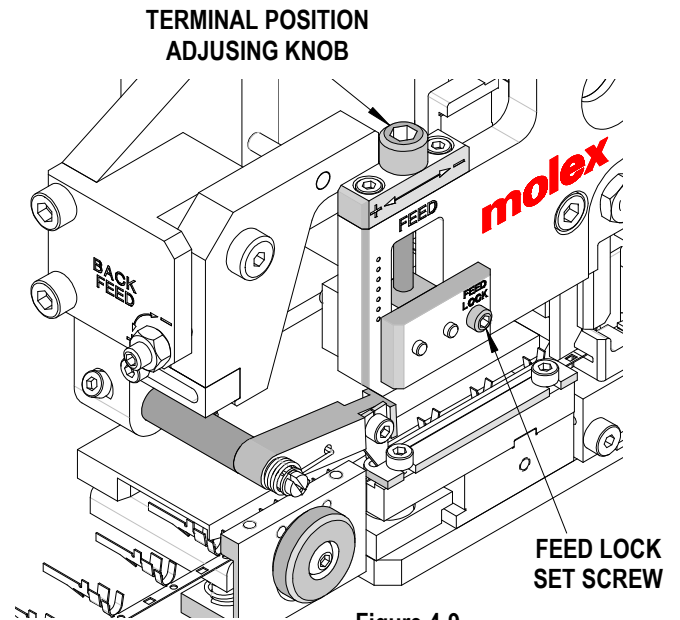

Figure 4-9
5. Turn the terminal position adjusting knob to center the terminal over the anvils. To move the terminal to the right, turn the FEED knob clockwise. To move the terminal to the left, turn the knob counterclockwise. See Figure 4-9.